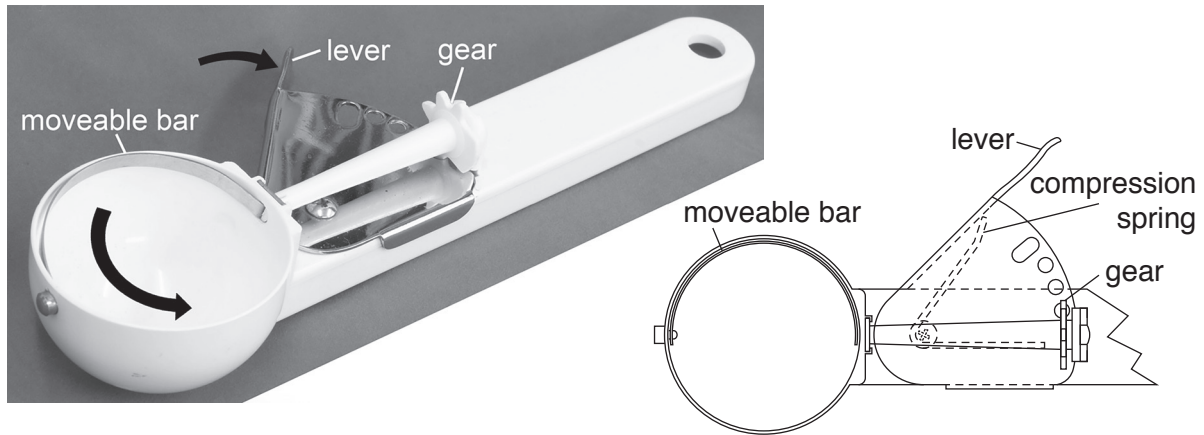

Fig. 3
- 4 Fig. 3 shows an ice cream scoop that uses a moveable bar to release a ball of ice cream when the lever is pressed. The lever operates a gear linked to the moveable bar.